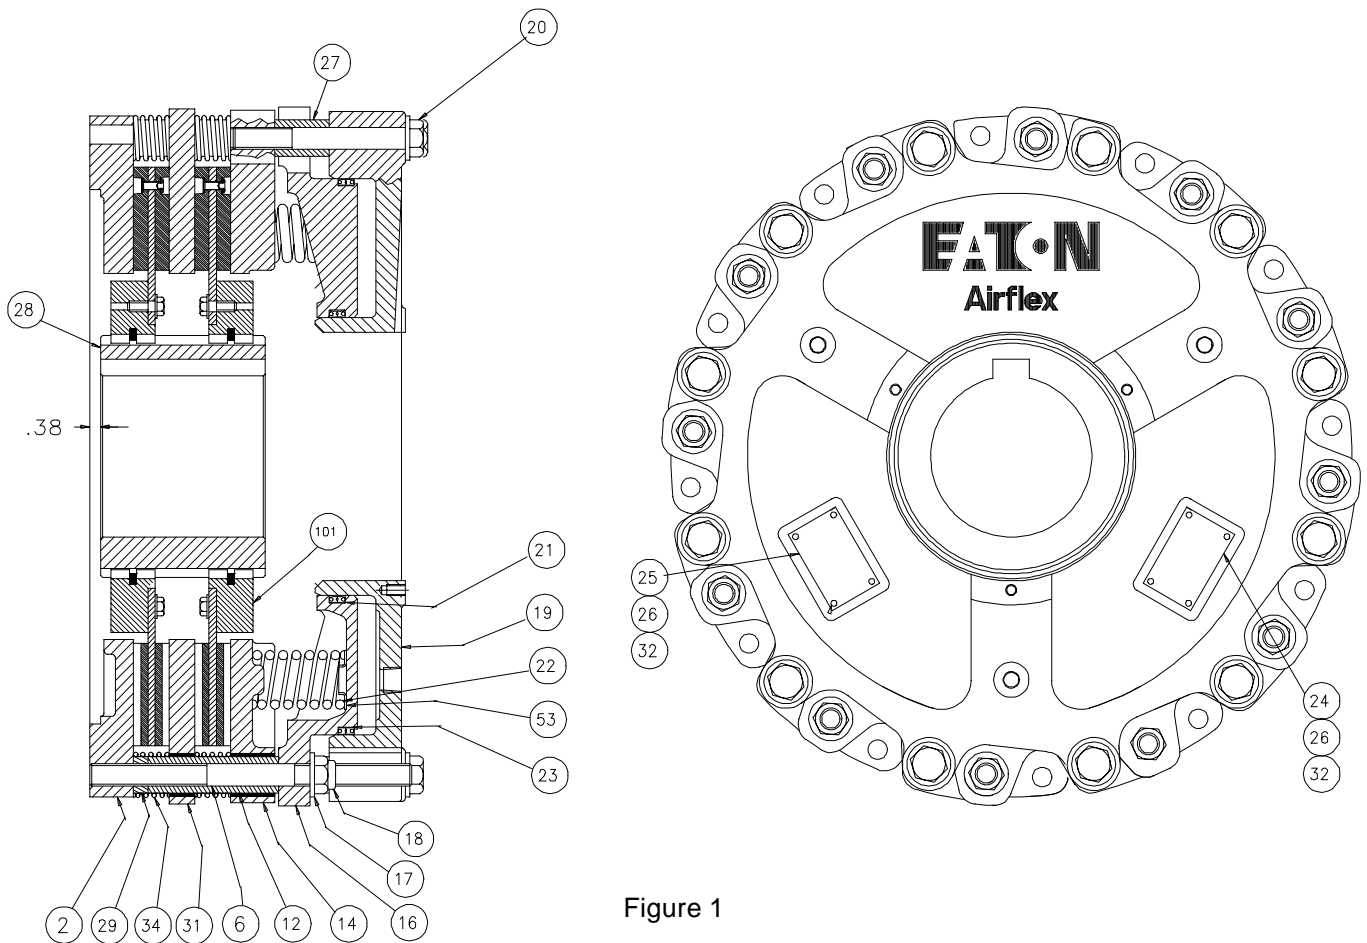

Figure 1
- 1.2.1 Referring to Figure 1, the gear (28) is mounted on the shaft which is to be stopped and the brake assembly is attached to the machine frame or a reaction bracket. As air pressure is applied through the ports in the cylinder (19), the cylinder and pressure plate (13), which are attached to each other with screws (20), flat washers (17) and spacer tubes (27), move away from the mounting flange (1), which is connected to the machine frame or reaction bracket. The pressure plate compresses the springs (22) against the stationary spring housing (16) and the clamp force is removed from the friction disc assembly (7) which rides on the gear. The shaft is then free to rotate. As air pressure is exhausted, the springs force the pressure plate toward the mounting flange, clamping the friction disc assembly between the two members. On dual disc models, an additional friction disc assembly and a reaction plate (30) are clamped between the pressure plate and mounting flange.
Do not paint the clamp tubes (12) or the springs (34) as shown on Figure 1, as this may hinder the engagement or disengagement of the brake.
- 2.1.1 Figure 1 shows the relationship between the brake mounting surface and the end of the gear (dimension ".38" on Figure 1). The gear is bored and keyed for a resulting Class FN2S interference fit for inch shafting and ISO System S7h6 for metric shafting.
- 2.2.3 Press the gear onto the shaft, making sure the dimension between the gear and the brake mounting surface (".38") is maintained. See Figure 1 and . Heating the gear uniformly to approximately 250°F (121°C) will expand the bore and ease assembly.